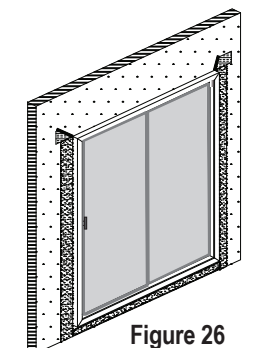

Figure 26
C) Remove tape holding WRB flap and fold WRB downward covering the head mounting fin. Be sure the WRB does not affix to the head flashing or create a pocket at the head of the door. Seal the WRB to head flashing using WRB sealant tape to cover the entirety of the top cuts previously made. **See Figure 26**